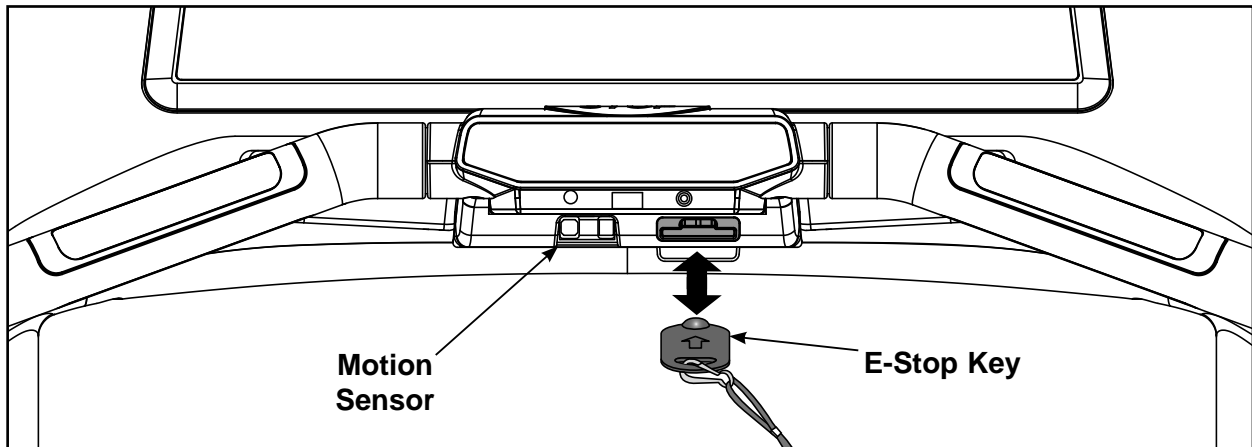

Figure 3
The motion sensor is located to the left of the estop key. While standing to the side of the treadmill, wave your hand in front of the motion sensor. An audible beep will indicate the sensor is working. See Figure 3.
- Pull out the e-stop key to display "Emergency Stop". Insert the e-stop key back into the console. See Figure 3.